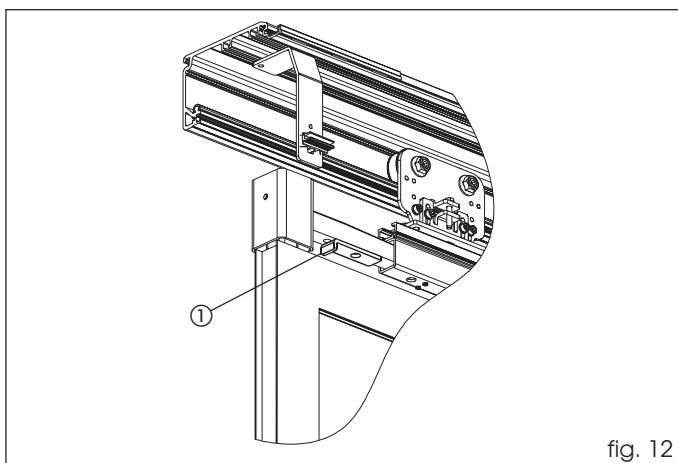

fig. 12
If using very light leaves (max 50 kg), locate the supplied square, as shown in figure 12 ref. ①, before inserting the rod on the top bracket.